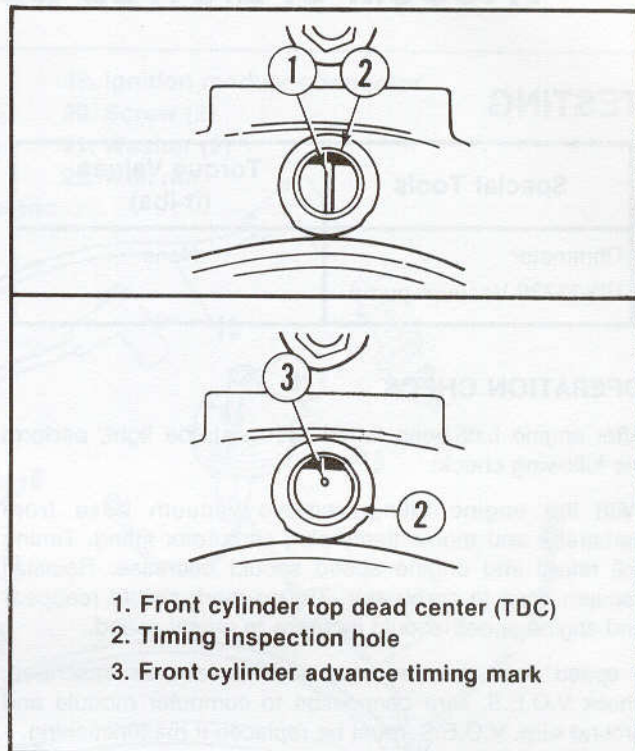

Figure 8-4. Ignition Timing Mark
Advance Timing (Figure 8-4)
4. See Figure 8-4. Aim timing light into timing inspection hole. Front cylinder advance timing mark should be centered in timing inspection hole.
MODULE REMOVAL (Figure 8-4)
MODULE INSTALLATION (Figure 8-4)